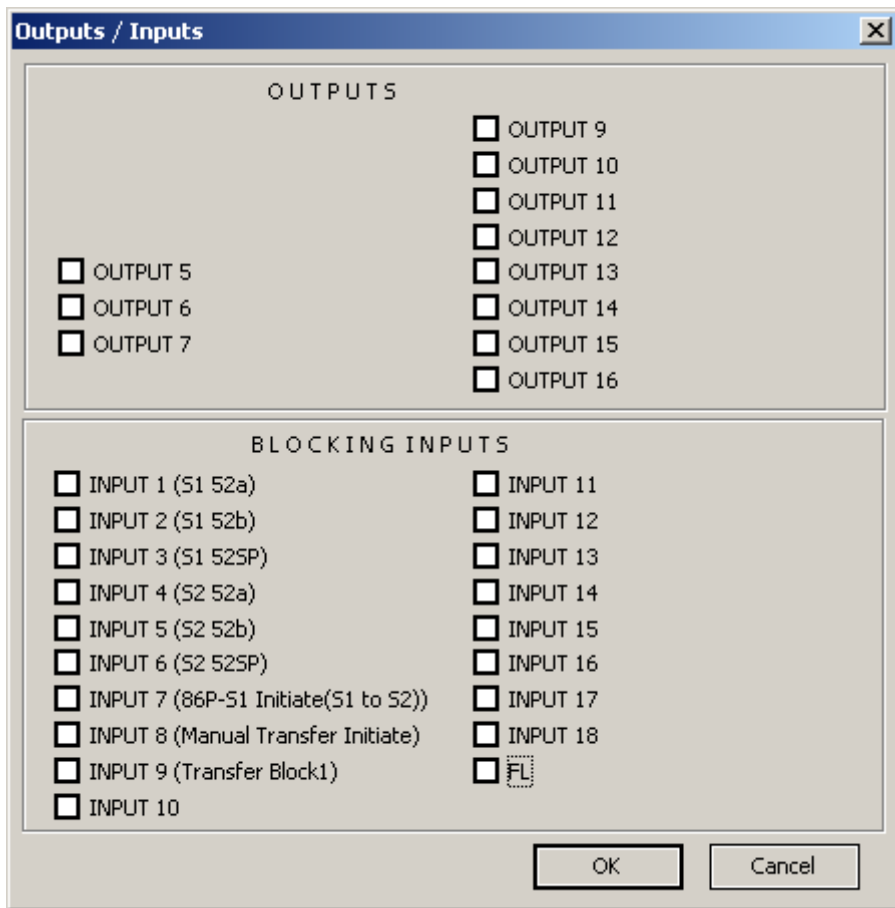

Figure 4-85 81R #1(2) ROCOF (Bus Voltage) Inputs/Outputs Selection Dialog Screen
**I/O Selection** — The I/O Selection button opens the 81R ROCOF (Bus Voltage) I/O Selection Dialog Screen (Figure 4-85) that allows any input or the Fuse Loss (FL) function to be selected to block the 81R #1(2) Function. The 81R #1(2) Function can also be used to activate a selected output when it times out.
**Save/Cancel** — The Save selection saves the 81R #1(2) ROCOF (Bus Voltage) Function Dialog Screen settings either to an open file or to the target MBTS. Cancel, returns the user to the previous open screen.